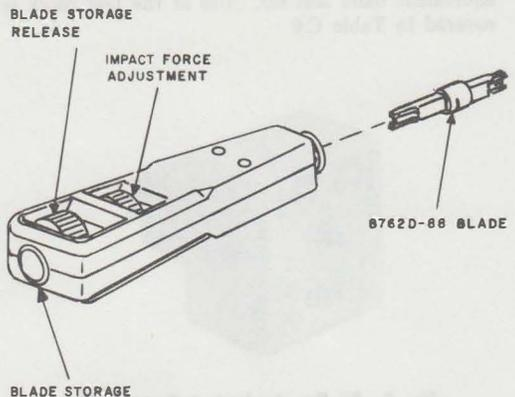

Fig. 13—D Impact Tool
2.17 The D impact tool (Fig. 13) consists of a handle with an adjustable impact force and a cavity for storing an extra blade. Double-ended blades are available which permit insertion/cutoff or insertion only of single conductors on 88-, 66-, or 630-type connecting blocks. Two knurled wheels are provided in the tool handle—one to adjust the impact force depending on wire gauge and type of connecting block; the other to expose the opening for the extra blade storage. The D impact tool is used to cut off and/or seat single conductors on the connecting blocks.